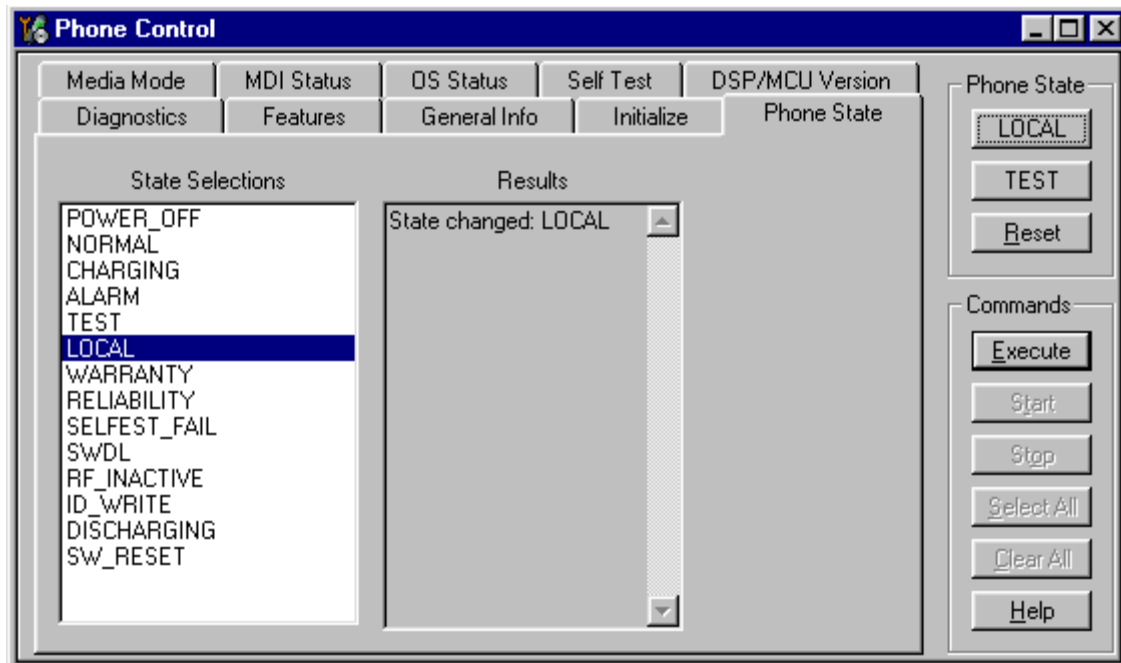

Figure 8: Phone Control dialog box
4. On the **Phone Control** dialog box, click the **LOCAL** button in the **Phone State** area to put the mobile terminal into Local Mode. (See Figure 8 on page 14.)
The **Phone Control** dialog box appears. (See Figure 8 on page 14.)